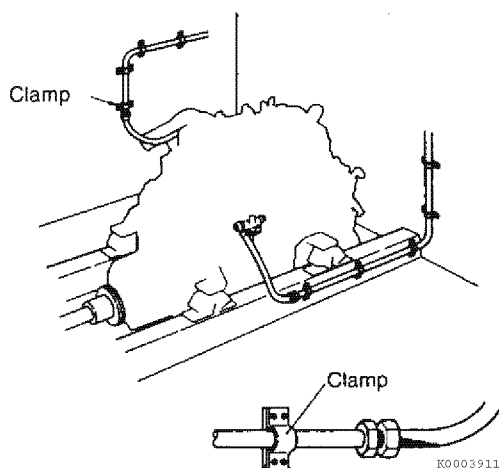

Figure 7-105
4. When using separately purchased copper or steel tube for the fuel piping, secure the pipe with clamps (**Figure 7-105**) approximately every 150 to 200 mm (5.0 to 8.0 in.) on the bulkhead or hull to prevent the pipe from breaking due to vibrations.